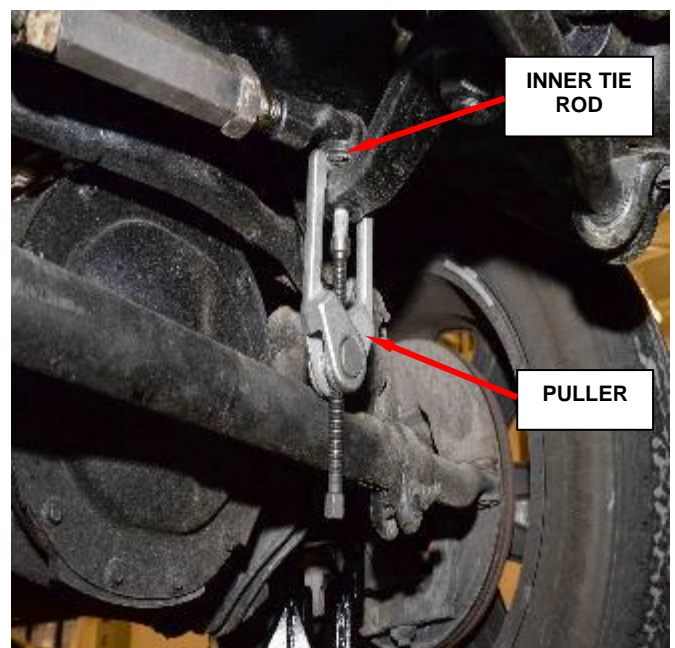

Figure 12 – Inner Tie Rod
4. Remove the outer drag link tie rod from the knuckle using C-3894-A (puller shown in Figure 12).
5. Remove and **DISCARD** the inner drag link to pitman arm nut (Figure 12).
6. Remove the inner tie rod end from the pitman arm using special tool C-3894-A (Figure 12).